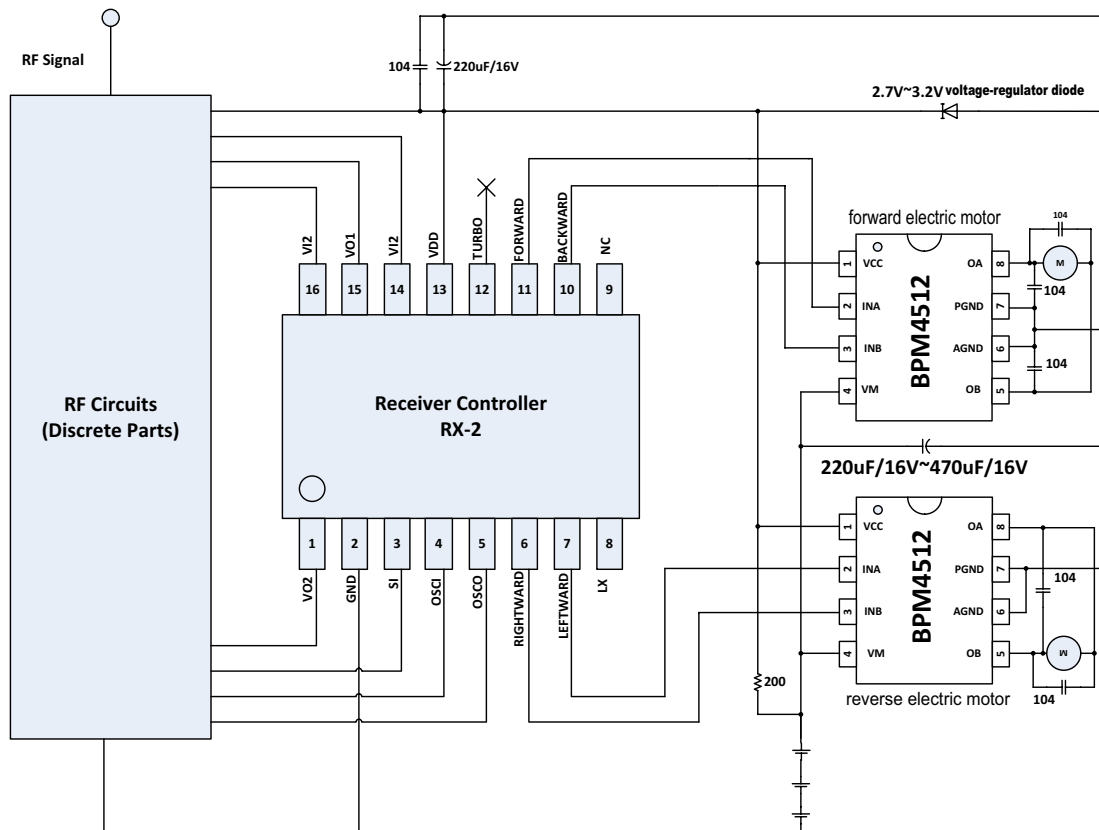

Figure 2 3 batteries power supply remote control car application schematic
Figure 2 that two batteries remote control toy car application circuit diagram use two BPM4512 circuit, used to drive forward/back and left/right motor respectively.Usually, RX2 power supply VDD used the set-down design, to ensure a stable supply when battery voltage reduced.RX2 power end (VDD) should connect a electrolytic capacitors 220uF/16V to GND and a 104 ceramics capacitors.
- 6、 the current of front wheel steering motor is small, and the peak voltage is smaller the rear wheels, still can cause damage to the circuit due to the high power supply voltage, Suggest pick up a capacitor 104 by cross nearby output side OA and OB ,or according to the connection of rear wheels. As shown in figure 2.
- 7、 3 batteries can chose connect front wheel steering motor capacitor or not according to actual situation,but for rear wheel steering suggest according to figure 2.